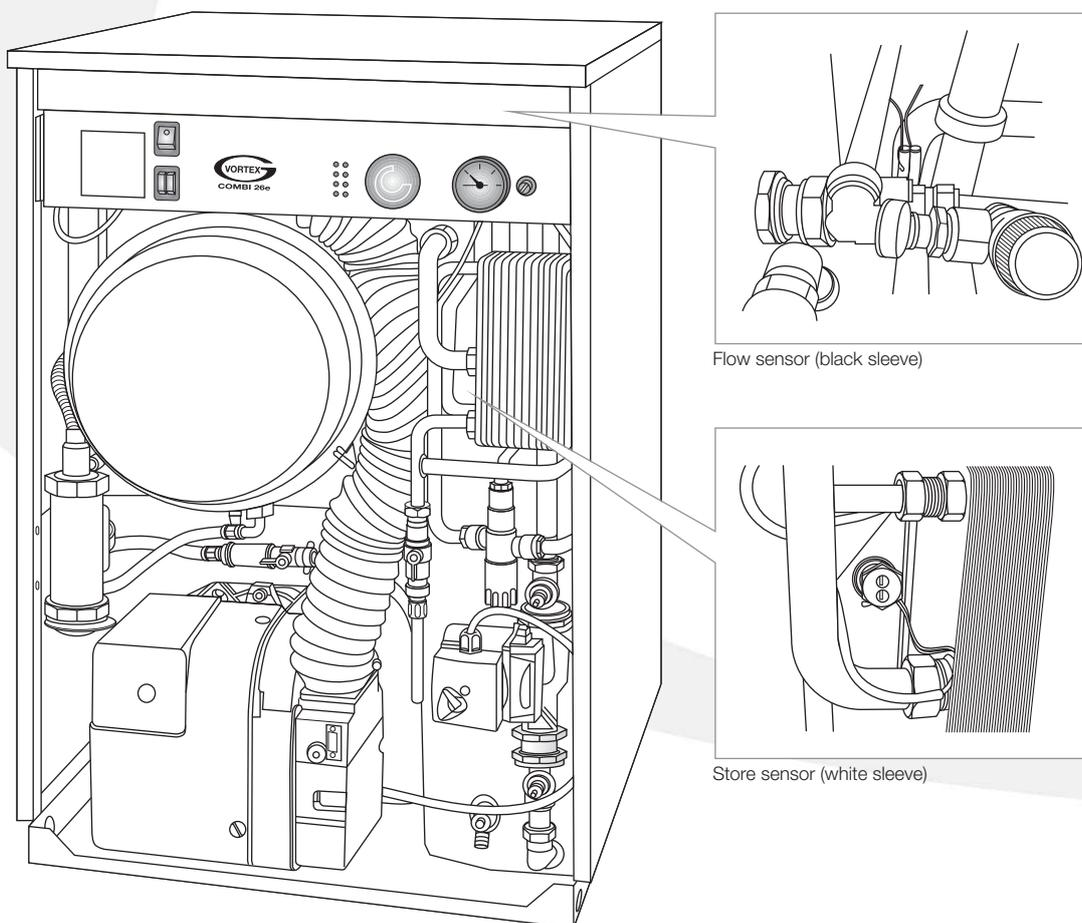

Figure 10-2: Position of boiler components - Vortex Pro Combi e boilers
2. Check that the high limit thermostat bulb and both thermistor sensors are correctly located in their respective pockets. Refer to Figure 10-2. Check condition of both thermistor cables and thermostat capillary. Ensure they are not damaged, broken, kinked or crushed.